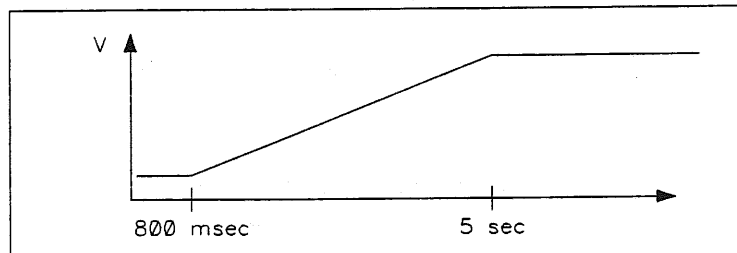

Fig. 2.4
- Pressing a key causes incrementation by »+« or decrementation for »-« by one unit each (e.g. 1/10 msec, 1 msec, 1 frame). If a key is pressed longer than 800 msec, incrementation or decrementation takes place with increasing speed (the maximum speed is reached after 5 seconds, see Fig. 2.4).